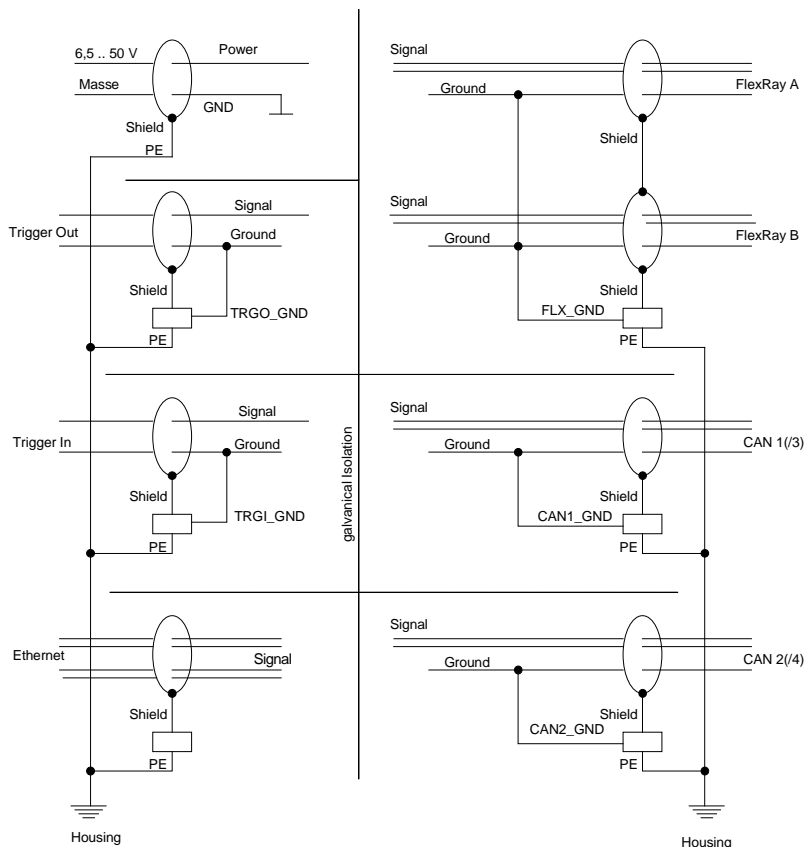

Fig. 3-6: Shielding concept
The device distinguishes between the signal ground (CANx_GND, FLX_GND, TRGx_GND), the supply ground (GND) and the housing ground (PE). Each interface has its own ground potential, as the interfaces are galvanically isolated from each other. Fig. 3-6 shows an overview of the shields and of the potentials of the individual interfaces.